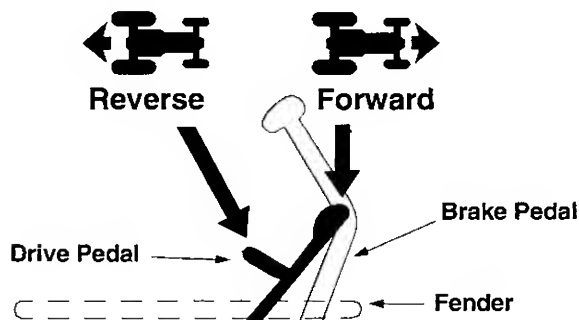

Figure 7
- To travel FORWARD, slowly depress the upper portion of the drive pedal forward until the desired speed is achieved. See Figure 7.
- To travel in REVERSE, check that the area behind is clear then slowly depress the lower portion of the drive pedal with the ball of your foot (NOT your heel) until the desired speed is achieved. See Figure 7.